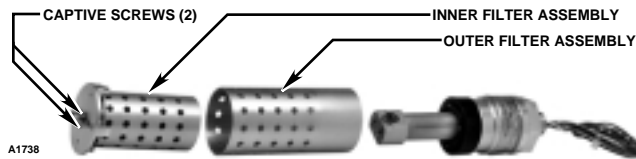
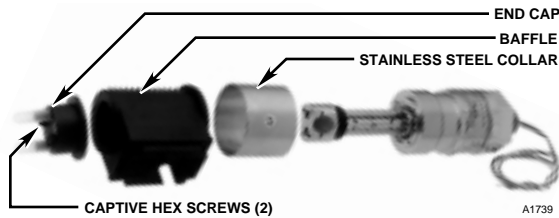

Figure 10—Aluminum PointWatch Disassembly
Figure 11—Stainless Steel PointWatch Disassembly
1. Loosen the two captive screws on the flat end of the detector and slide the filter assemblies off. For the aluminum model, use a standard screwdriver. For the stainless steel model, use a 7/64 inch hex driver. See Figure 10 (aluminum) or Figure 11 (stainless steel).
7. For the aluminum model, slide the outer filter assembly over the mirror assembly. The outer filter should be oriented with the solid portion toward the base of the unit. If it is not oriented correctly, the filter assembly will not slide onto the unit. Slide the inner filter assembly into the outer filter assembly and rotate until it is seated securely, then fasten the two captive screws using a standard screwdriver. See Figure 10.
For the stainless steel model, slide the stainless steel collar onto the base assembly, then slide the baffle onto the unit. Place the end cap on the baffle and rotate it until it is seated securely, then fasten the two captive screws using a 7/64 inch hex driver. See Figure 11.